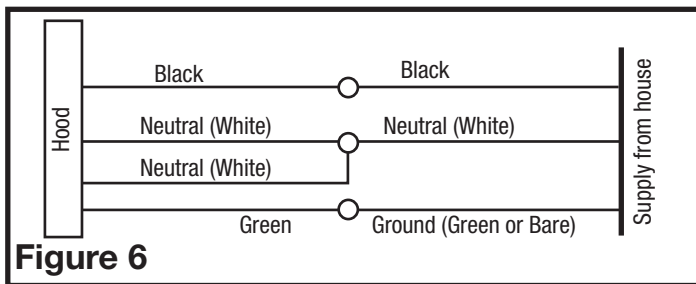

Figure 6
- Examine the wire compartment cover and select the most convenient wire entrance and remove the knock out. Feed the supply wire through the opening and install an appropriate strain relief. Connect the two loose White wires from the range hood to the White wire from the supply, and the loose Black wire from the range hood to the Black wire of the supply. Connect the ground wire (green or bare) from the supply to the green ground screw of the hood. Use approved methods for all connections (**Figure 6**).